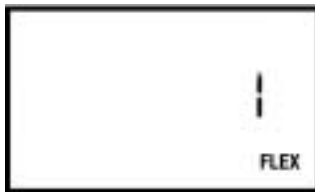

Figure 6–12 Flex Setting Screen
1. From the Session Counter View screen or the FOSQ screen (if applicable), press the **Right User** button. The Flex Setting screen appears, as shown in Figure 6–12.